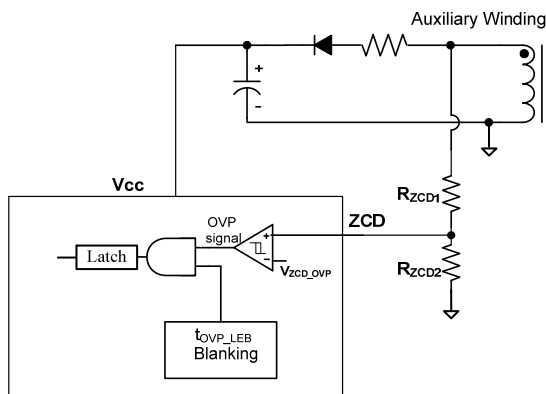

Figure 7—OVP sampling circuit
Output over-voltage protection (OVP) prevents the components from over-voltage damage. The voltage of the auxiliary winding positive plateau is proportional to the output voltage, so the OVP block monitors this auxiliary winding voltage to apply an OVP function (see Figure 7). Once ZCD voltage exceeds V_{ZCD_OVP} , the OVP signal is triggered, the gate driver turns off, and the IC works in quiescent current mode. When the VCC voltage drops below the UVLO threshold, the IC shuts down and the system re-starts. The output OVP set point is calculated with Equation (2):